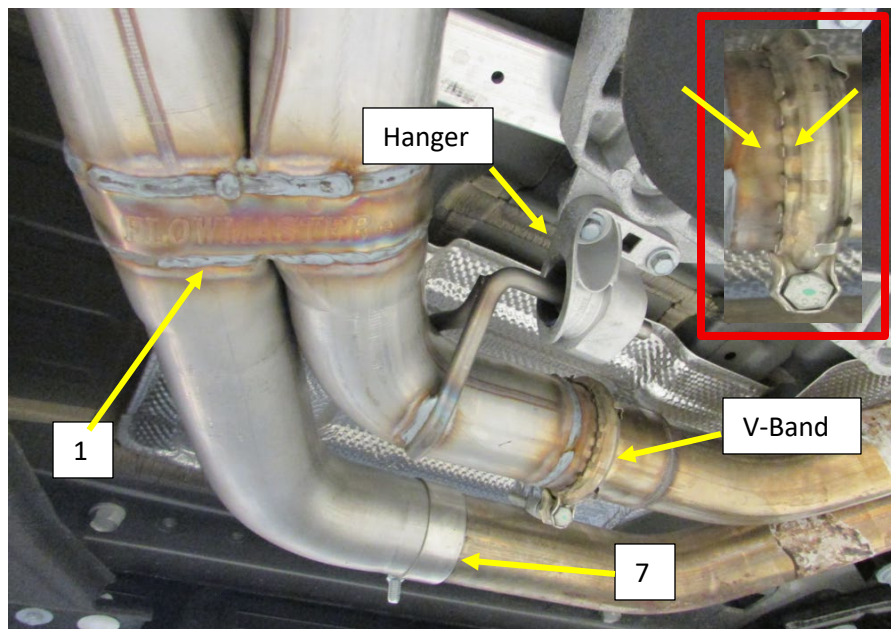

Figure.5
6. Align the expanded inlet pipe to the left catalytic converter and install the pipe from the catalytic converter into the Scavenger pipe expanded inlet. **Fig.5**
- Use the Pliers to expand the Original V-Band clamp and re install it over the x4 flattened ears of the gasket and on to the flange. **Be sure the small tabs of the gasket are over the edge of the clamp and NOT under it. See inset of Figure. 5**
- Install the Hanger isolator on to the hanger rod and install the bolts. **Fig.5**